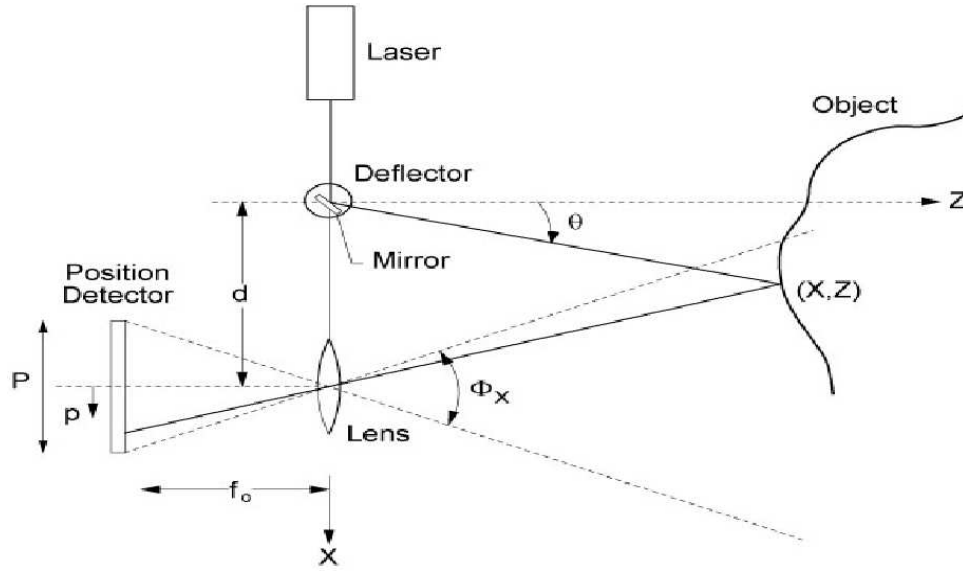

Figure 1: Geometry of laser rangefinder
- Fig. 1 shows the basic geometry of laser triangulation. If we know the direction of the laser source and the 3D ray emanating from the vision sensor that images the laser, we can intersect them in 3D to find the depth.
- To solve for depth (Z) and horizontal position (X), we can refer to figure 1: